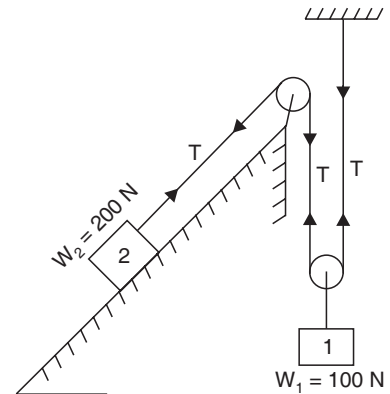

Fig. 8.23
18. Find the tension in the string during motion of the system shown in Fig. 8.23.  $\mu = 0.2$ . Neglect the mass of the pulley. Take  $g = 9.81 \text{ m/s}^2$ . [Ans. 63.38 N]